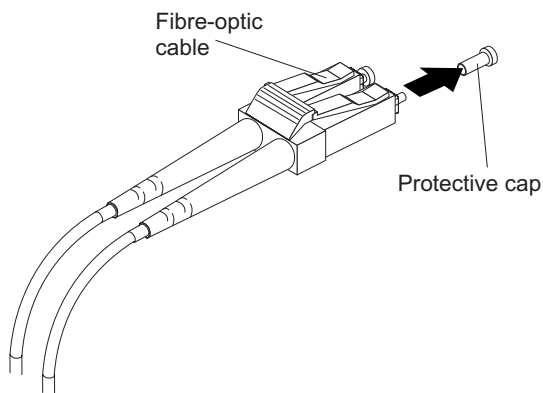

Figure 29. Removing fibre-optic cable protective caps
3. Remove the two protective caps from one end of the LC-LC cable, as shown in Figure 29. Save the protective caps for future use.